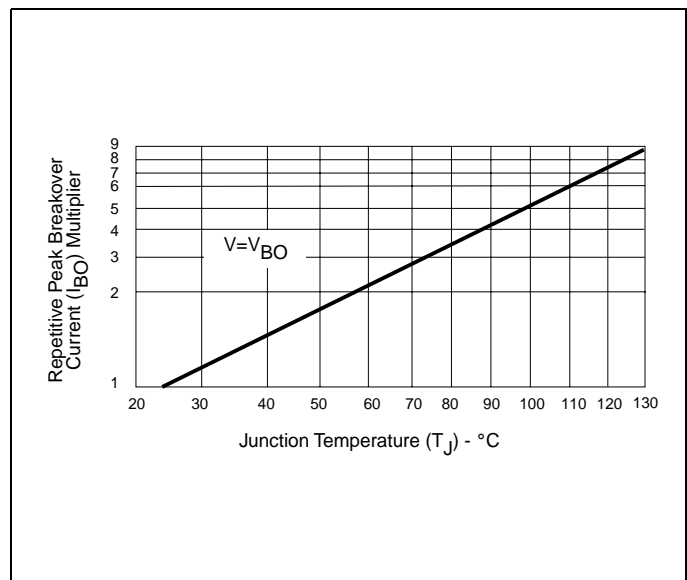

Figure 9.7 Normalized Repetitive Peak Breakover Current vs Junction Temperature
- See Figure 9.7 for  $I_{BO}$  vs junction temperature.